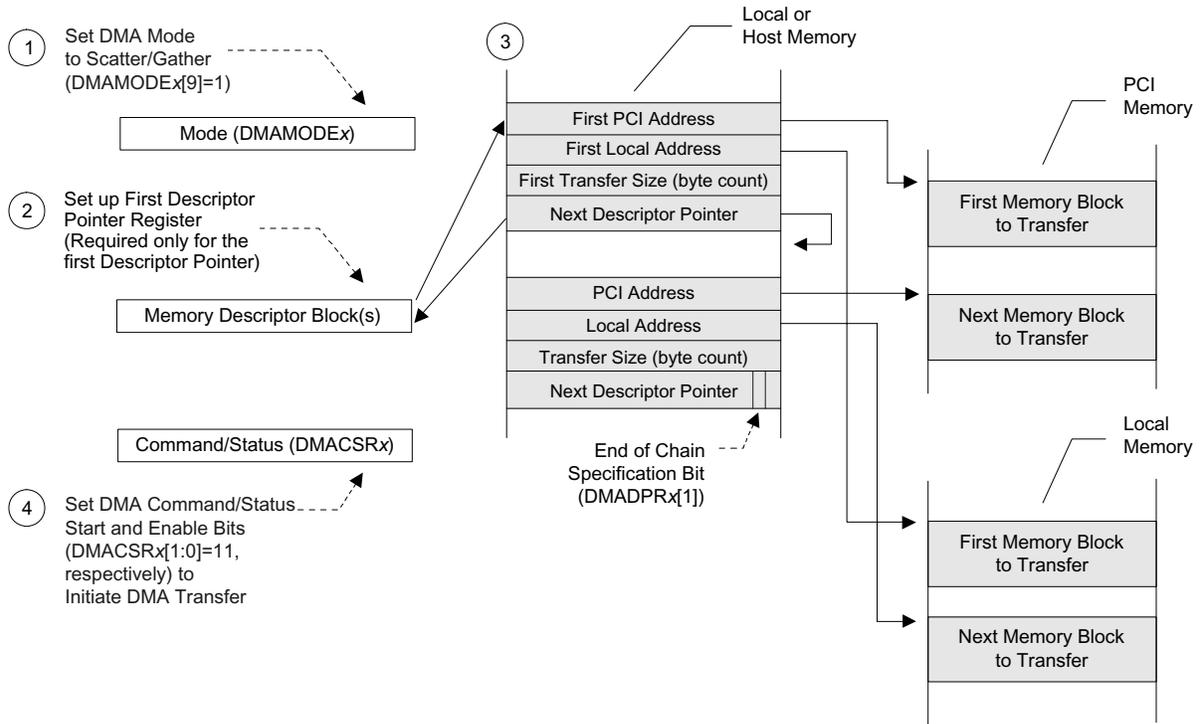

Figure 3-17. DMA Scatter/Gather Mode Descriptor Initialization [PCI SAC/DAC PCI Address (DMADACx) Register Dependent]
- DMADACx contain(s) a non-zero value. DMAMODEx[18] is cleared to 0. The PCI 9656 performs a Single Address Cycle (SAC) 4-Lword descriptor block load from PCI memory and DMA transfer with DAC on the PCI Bus. (Refer to Figure 3-17.) The DMA descriptor block starting addresses should be 16-byte-aligned.